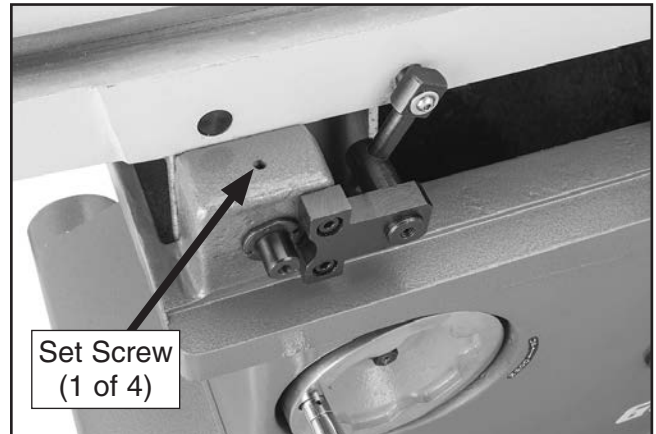

Figure 56. Location of eccentric bushing set screw.
- Loosen set screw on each eccentric bushing (see **Figure 56**).